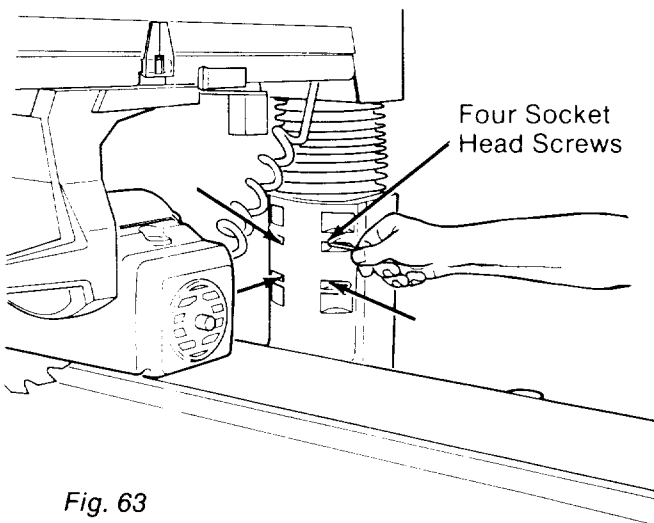

Fig. 63
12. Use a $1/8$ " hex "L" wrench to loosen the four screws in the front of the *column support* slightly, if you have not already done so in the Adjusting Elevation section. (Figure 63)